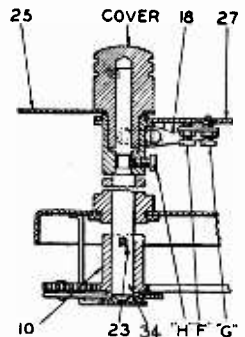

Fig. 3
F. & G. Record Separating Knife. (See Fig 3)—The upper plate (knife) (25) on each of the record posts serves to separate the lower record from the stack and to support the remaining records during the change cycle. It is essential that the spacing between the knife and the rotating record shelf (27) be accurately maintained. The spacing for the 10 inch record is nominally .055 inch, and for the 12 inch record is .075 inch.
H. Record Support Shelf.—The record shelf revolves during the change cycle to allow the lower record to drop onto the turntable. Both posts are rotated simultaneously by a gear and rack coupled to the main lever (15), and it is necessary that adjustment be such that the record is released from both shelves at the same instant. To adjust, place a 12 inch record on the turntable, rotate mechanism into cycle to the point where both separating knives have turned clockwise as far as the mechanism will turn them; lift record upward until it is in contact with both separating knives. Then loosen screws (H) and shift record shelves (27) so that the curved inner edges of the shelves are uniformly spaced approximately 1/16
inch from the record edge. (See Fig. 3.) Some backlash will be present in the rotation of these shelves. They should be adjusted so that the backlash permits them to move away from the record but not closer than the approximate 1/16 inch specified above. Tighten the blunt nose screw (H), run mechanism through cycle several times to check action, then tighten cone pointed screw (II).